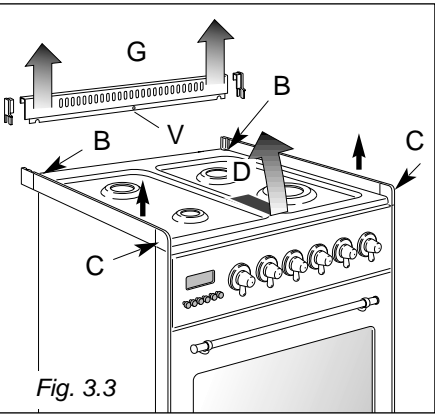

Fig. 3.3
- Remove the backguard “G” (Fig. 3.3).
- Unscrew the two screws “B” and remove the sockets (Fig. 3.3).
- Pull forwards the hobtop to release it, then lift following arrow “D” (Fig. 3.3).